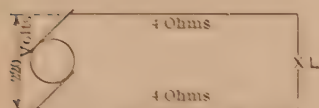

FIG. 36.
**Problem 7.** Lamp  $L$ , Fig. 36, requires 0.2 ampere. Voltage of the generator is 220 volts: